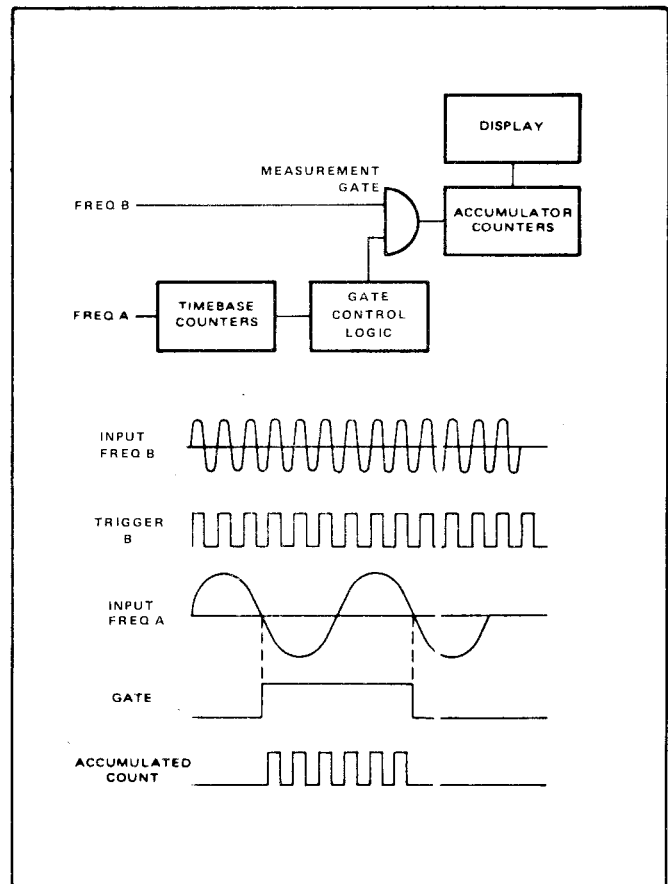

Figure 1.10 - B/A Ratio
1.3.10.1 This mode is identical in function to the frequency measurement modes, but substitutes an external signal for the reference signal (figure 1.10).